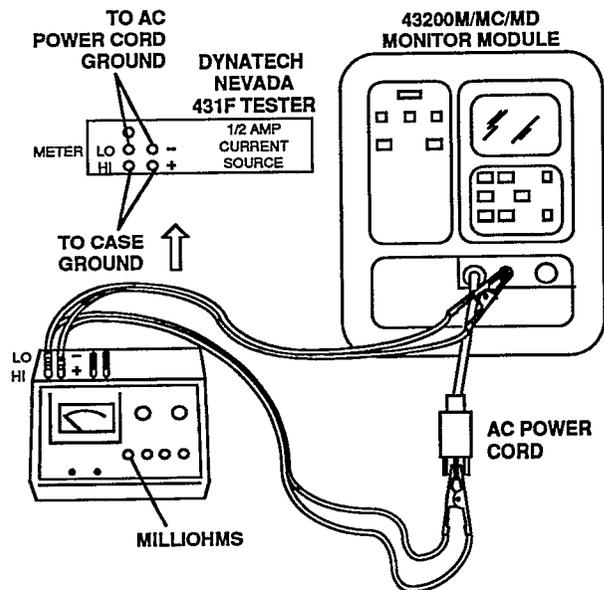

Figure 3-3. Power Cord to Chassis Ground Resistance Check Test Setup.
1. Press the POWER OFF key and disconnect the AC power cord. Connect the test equipment as shown in Figure 3-3.